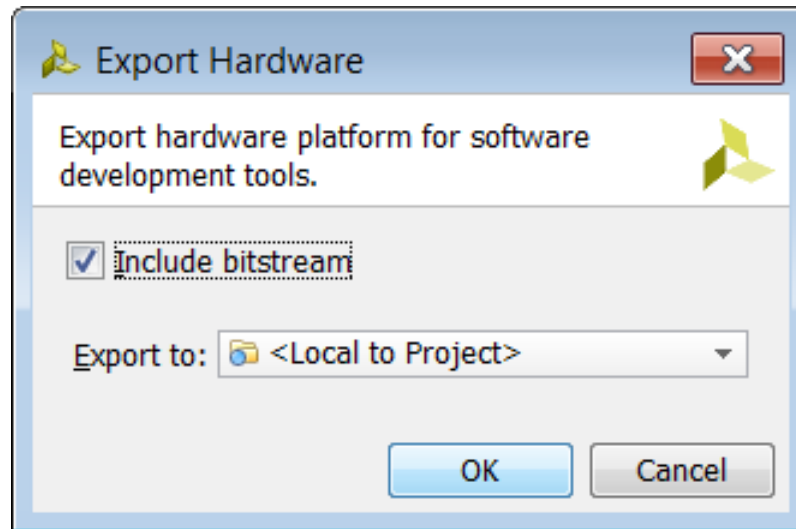

Figure 8: Export Hardware
3. After the bitstream is generated, export the hardware design by selecting **File > Export > Export Hardware**. A popup dialog box asks where to export the design. Select to include the bitstream and export the files locally to the project, as shown in Figure 8.